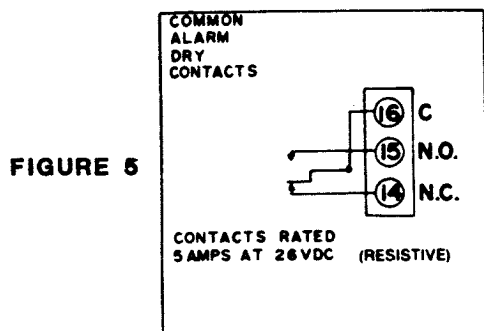

FIGURE 5
4. COMMON ALARM DRY CONTACTS (Fig. 5)